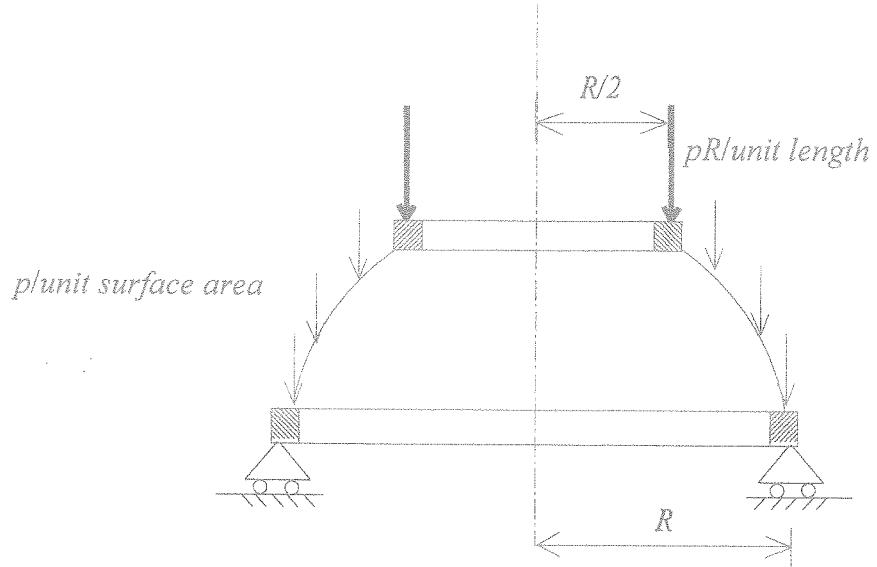

Figure Q4
- b) Determine the stress resultants in the spherical dome structure shown in Figure Q4.